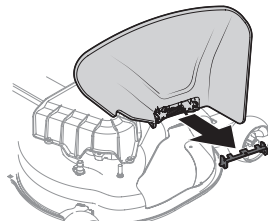

Figure 19
1. Check the tractor deck for a shipping brace that may be holding the chute deflector upward for shipment. If the brace is present, it must be removed before operating the tractor. Holding the chute deflector fully upward, remove the shipping brace. Lower the chute deflector and discard the shipping brace (Figure 19).